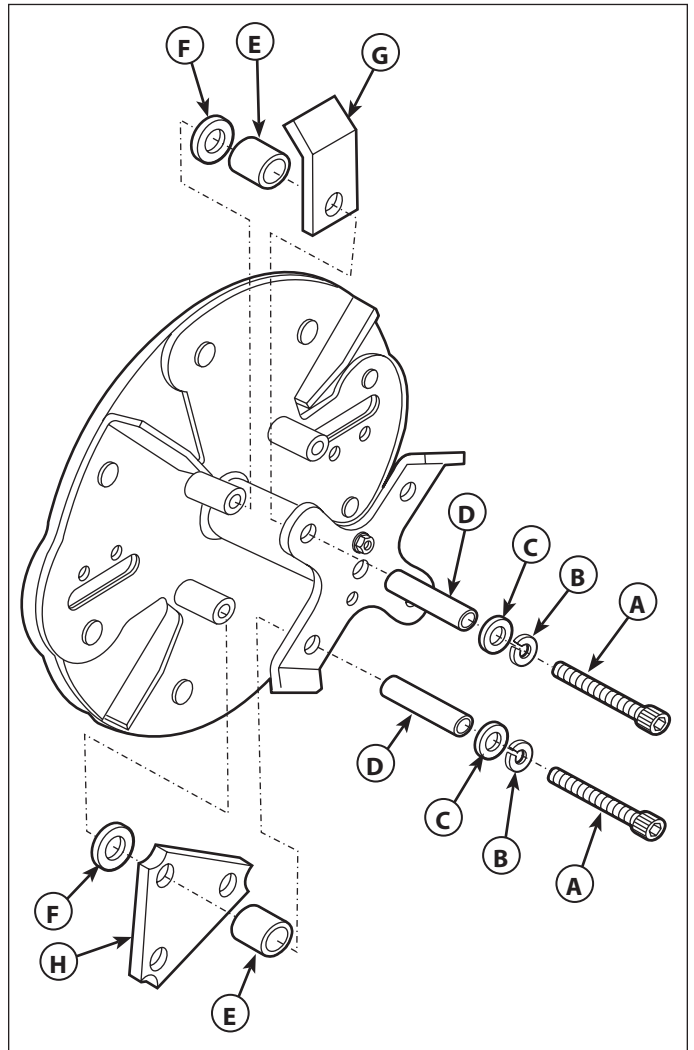

Figure 14. Removing Rotor Housing
5. Note the assembly sequence of the hardware used to secure the hammers (Figure 14). Using a 5/16" allen wrench remove the socket head capscrew (A) and related hardware.
capscrews. Torque the socket head capscrews (A) to 30-35 ft. lbs. (41-47 N.m.) Refer to Figure 14 for assembly. The J-hammer (G) on the opposite side of the rotor faces outward for balanced rotation.